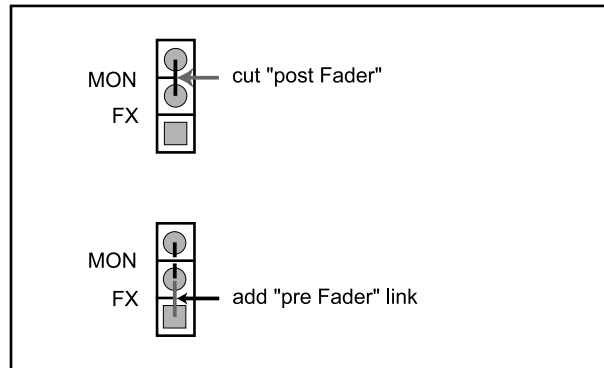

Fig. 5.1: Modification MON/FX "post fader" > "pre fader"
2. The positions in question are found on the part of the circuit board located perpendicular to the front side. Please observe figure 5.1.